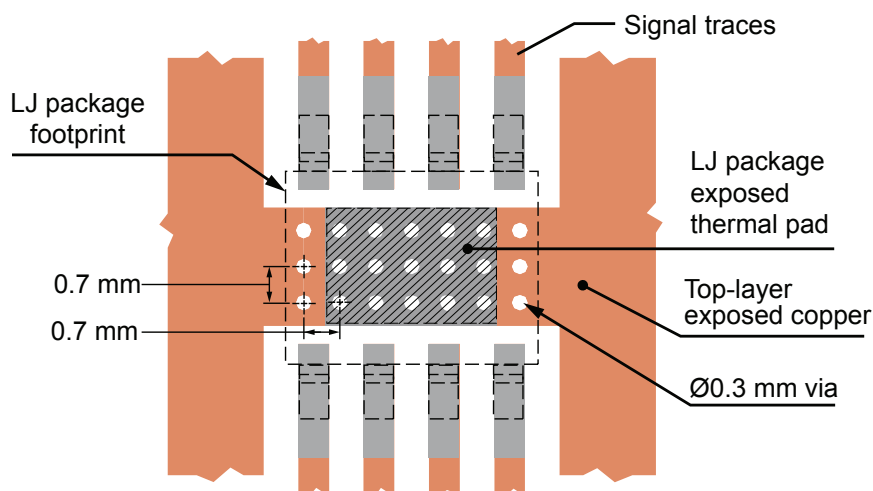

Figure 21: Suggested PCB Layout for Thermal Optimization (Maximum Available Bottom-Layer Copper Recommended)
- The greater the quantity of thermal vias, the better the dissipation. If the expense of vias is a concern, studies have shown that concentrating the vias directly under the device in a tight pattern, as shown in Figure 21, has the greatest effect.